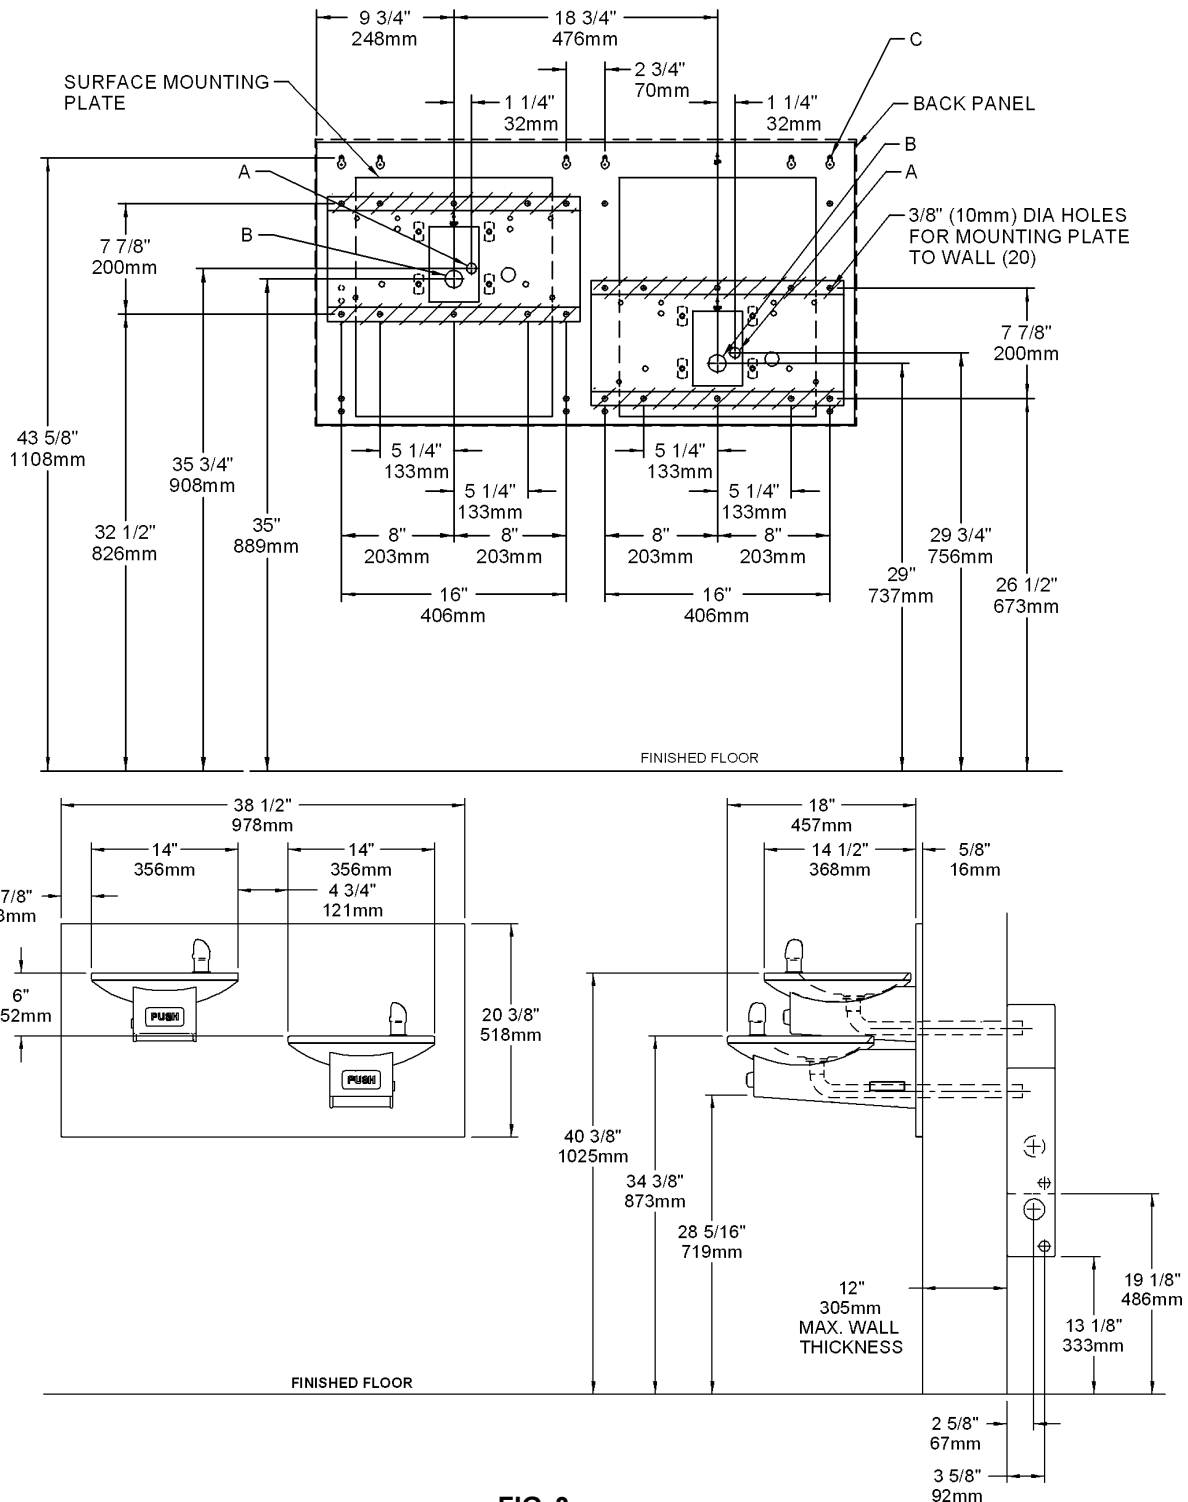

FIG. 3
1. **Wall should** already be framed for the fountain using the positioning dimensions shown in Figure 3. Shown dimensions pertain to installation location (framing must support up to 300 lbs. weight). These dimensions are required for compliance with ANSI Standard A117.1/ADA requirements.